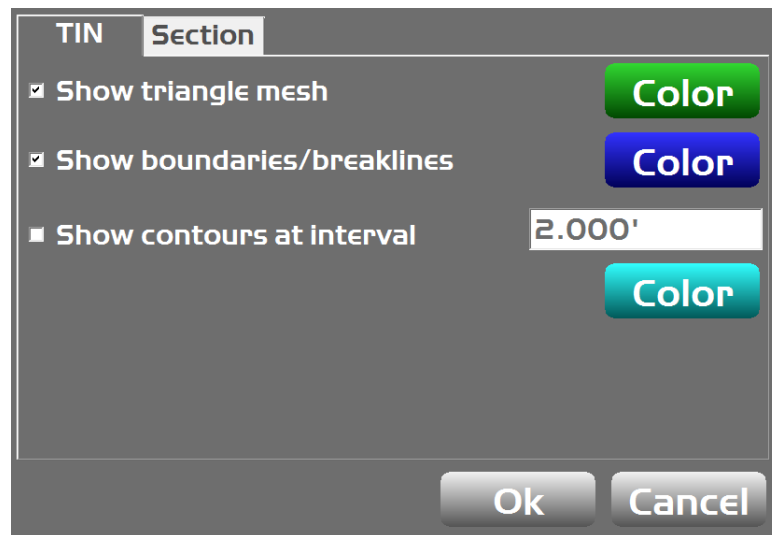

Figure 101: Select a Color for the TIN Parameters
1. Press the Power button on the display, then tap **View ▶ Display options ▶ Working surface**. The **TIN/Section** tab list appears (Figure 101 on page 76).
3. Tap the **Color** button next to the desired parameter(s). The **Color Selection** screen appears (Figure 101 on page 76).